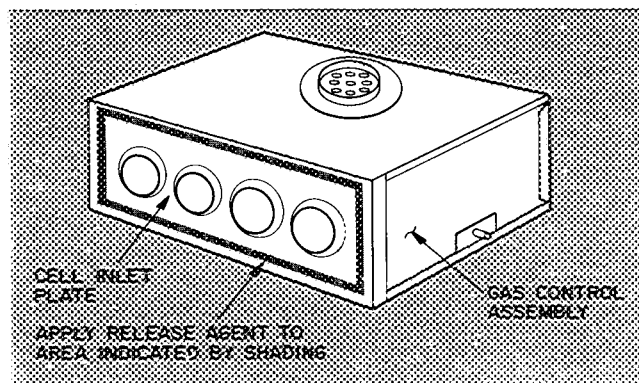

Fig. 10 — Burner Closure
12. Check condition of gasket on cell inlet panel of burner enclosure. Replace gasket if necessary (Fig. 10).